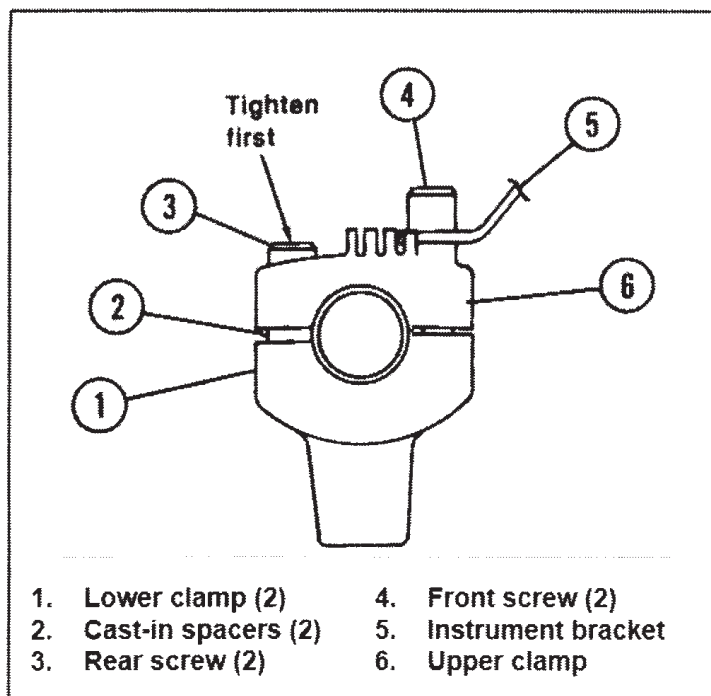

Figure 7. Handlebar Clamp
1. See Figure 7. Adjust handlebars to Rider's normal riding position; hold in position.
a. Tighten two rear screws (3) until cast-in spacers (2) of upper clamp contact handlebar lower clamps (1).
b. Tighten front screws (4) to 12 -15 ft-lbs (16 - 20 Nm) torque.